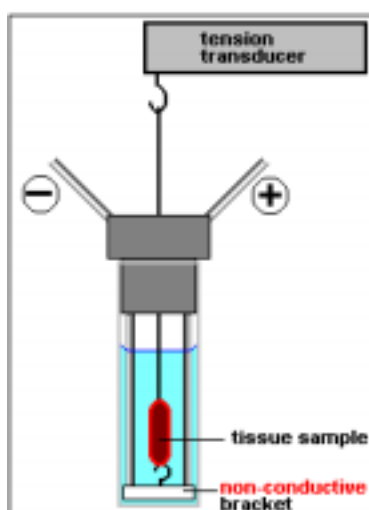

Figure 60 Making measurements on tissue samples
- Making measurements on tissue samples by using two long tubes as anchor points for a tissue hook, removing the coverslip holder barrel, and passing a cord to a tension transducer, as shown in Figure 60.